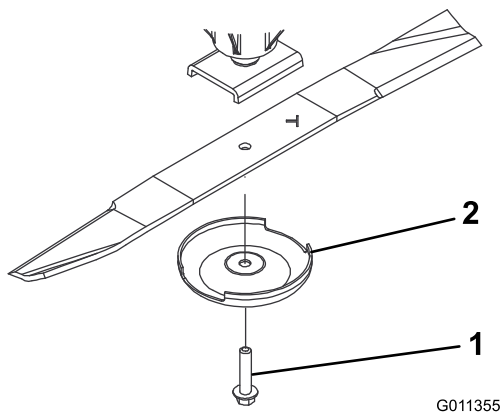

Figure 14
- Grasp the end of the blade using a rag or thickly padded glove. Remove the blade bolt, anti-scalp cup, and blade from the spindle shaft (Figure 14).
3. Install the blade, sail facing toward the cutting deck, with the anti-scalp cup and blade bolt (Figure 14). Tighten blade bolt to 85–110 ft-lb (115–149 N-m).